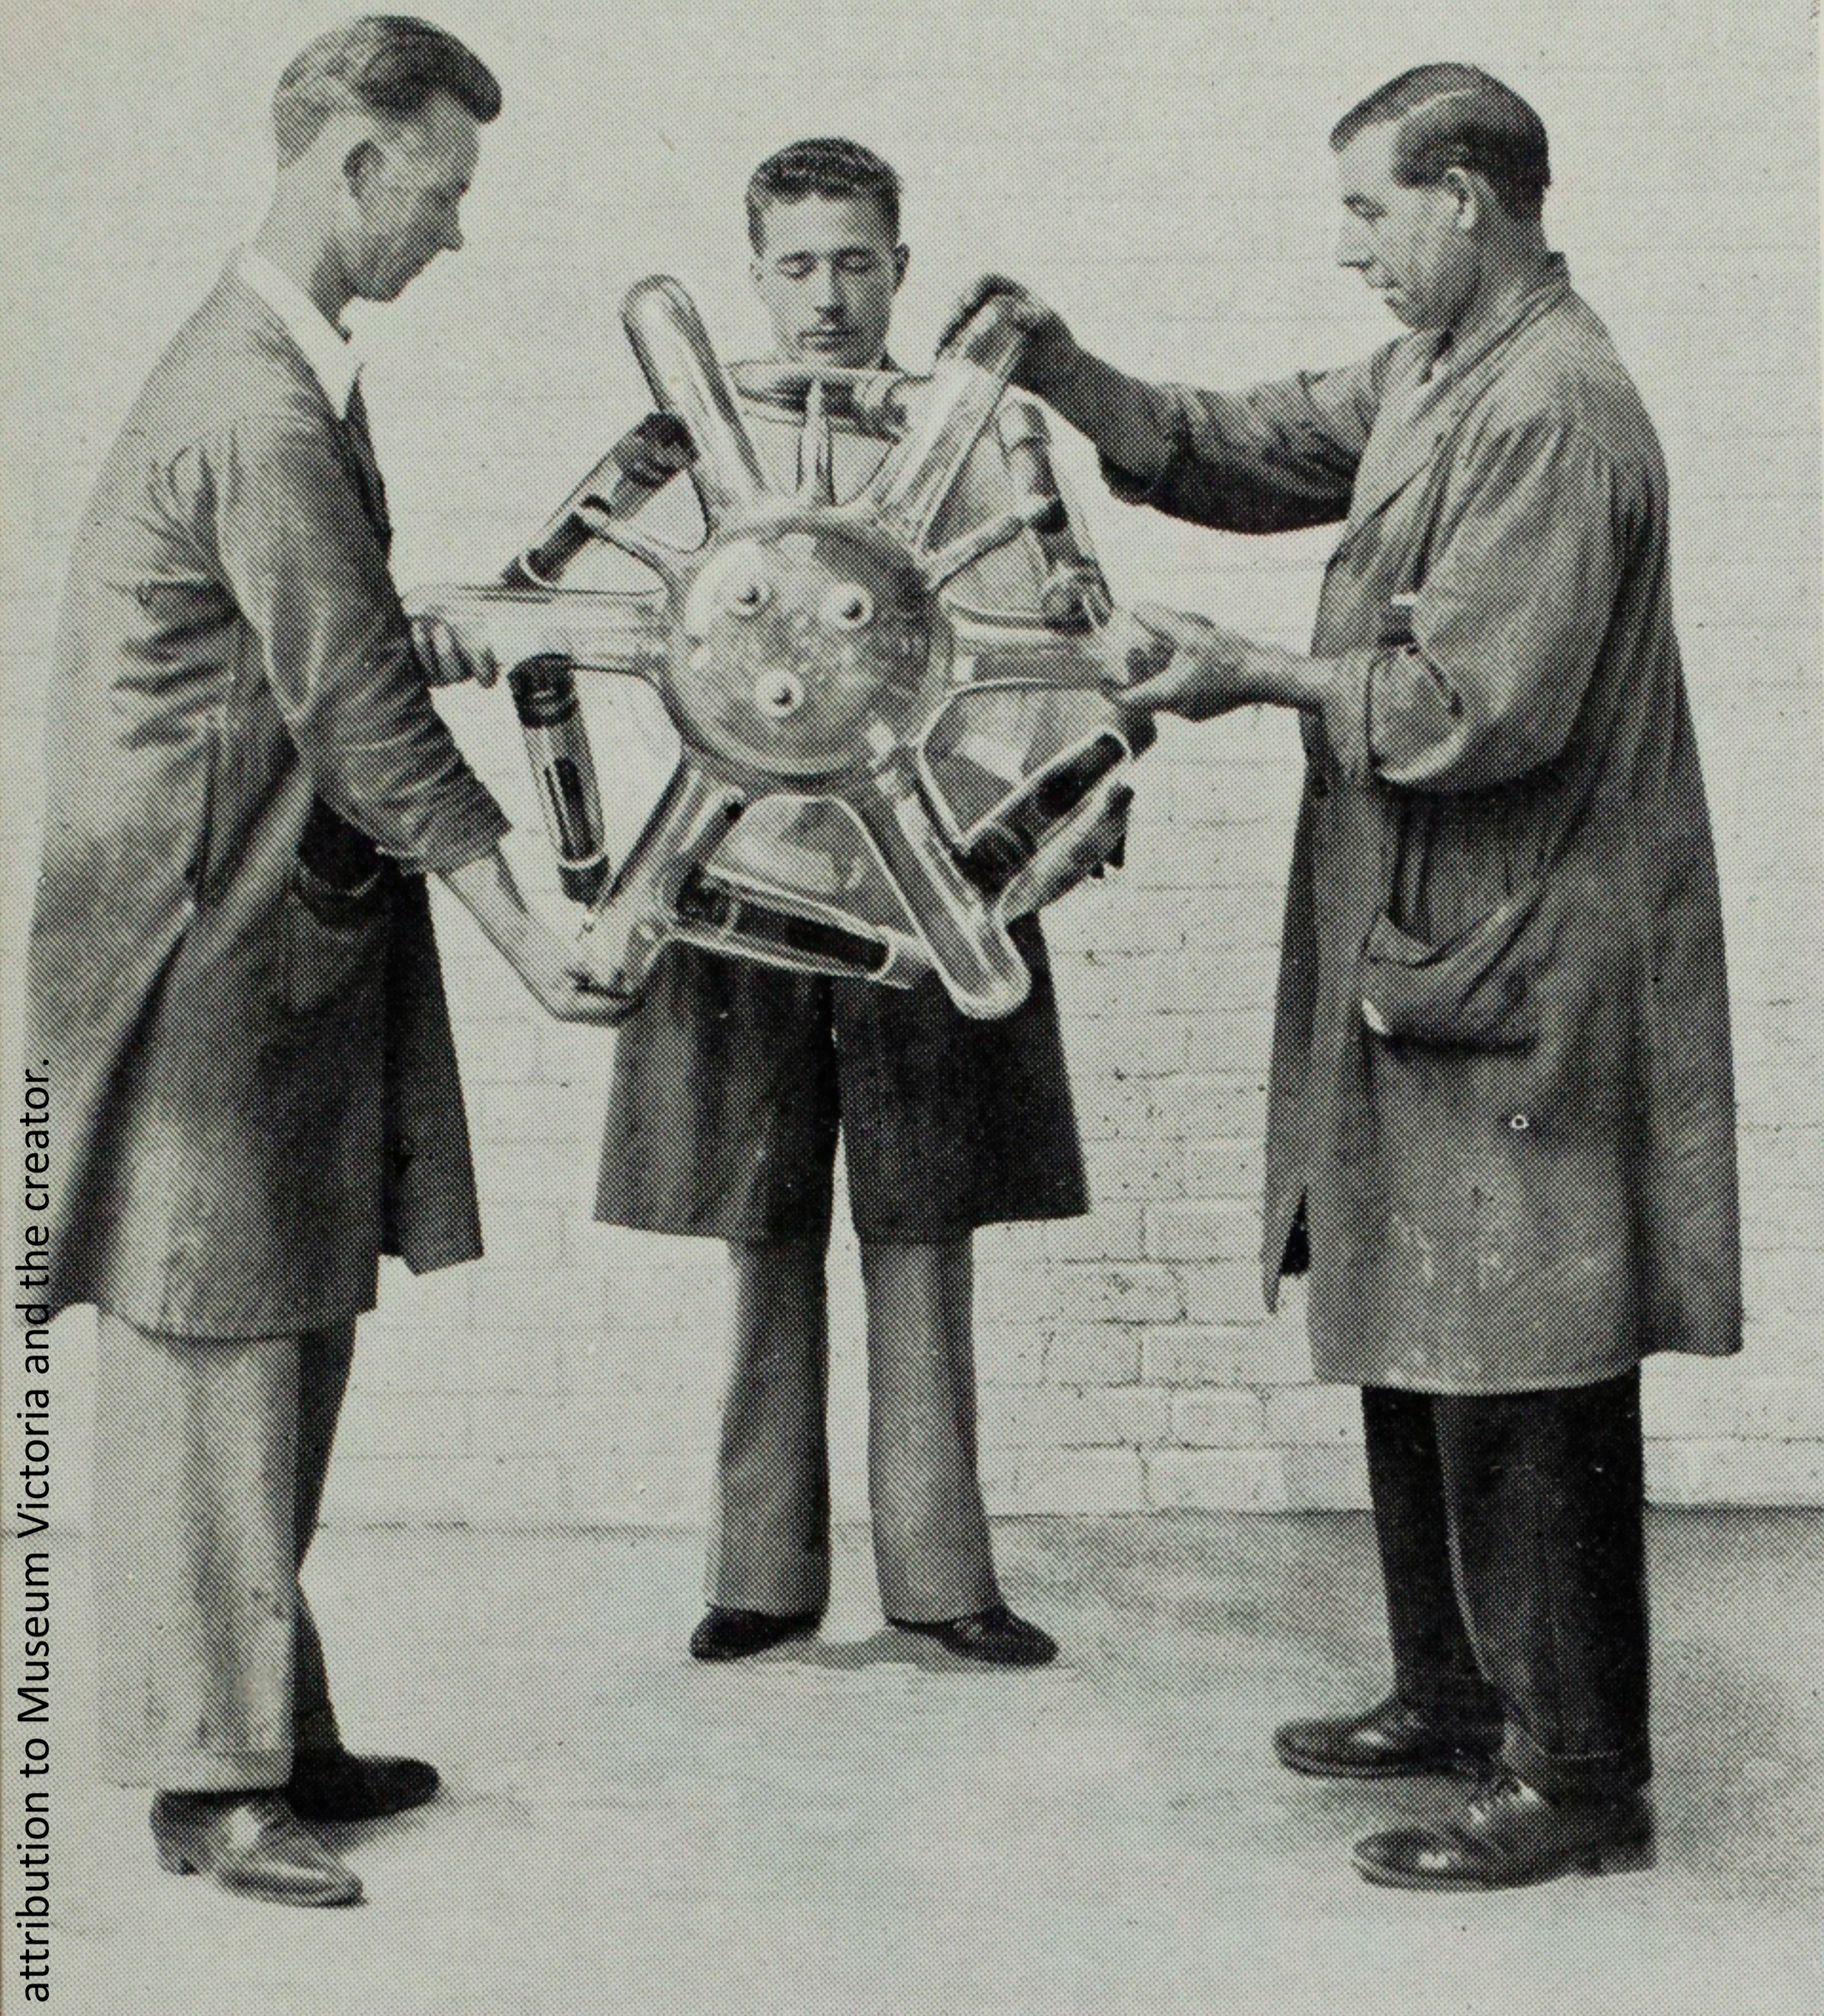

Fig. 9
**Fig. 8.** (a) A very large bulb (e.g. size 600 or over), should be unpacked and removed from its case in the same way as described on page 2. Two men can easily perform this operation. For turning the bulb into the upright position the assistance of a third man is advised. (See Fig. 9).
**Fig. 9.** (b) Turning the bulb into the upright position with the assistance of a third man. As previously mentioned this must be done slowly, allowing the mercury to flow down the side into the cathode chamber. Mind the seal-off! (See page 3).